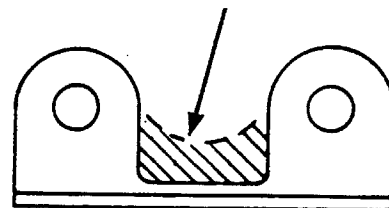

FIG. 2
15. 100LS ONLY: Modify air filter bracket as shown in Fig. 2 to provide clearance required to fit the bracket to the Weber carburetor.